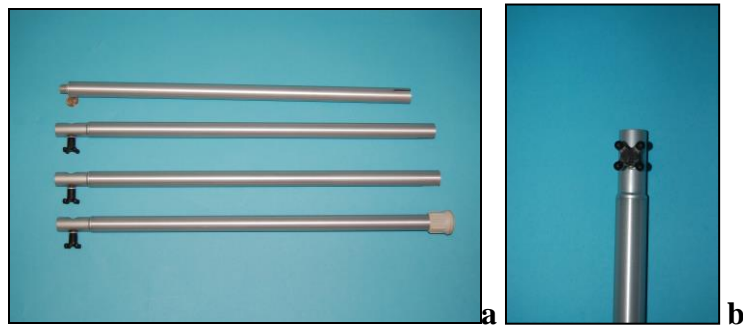
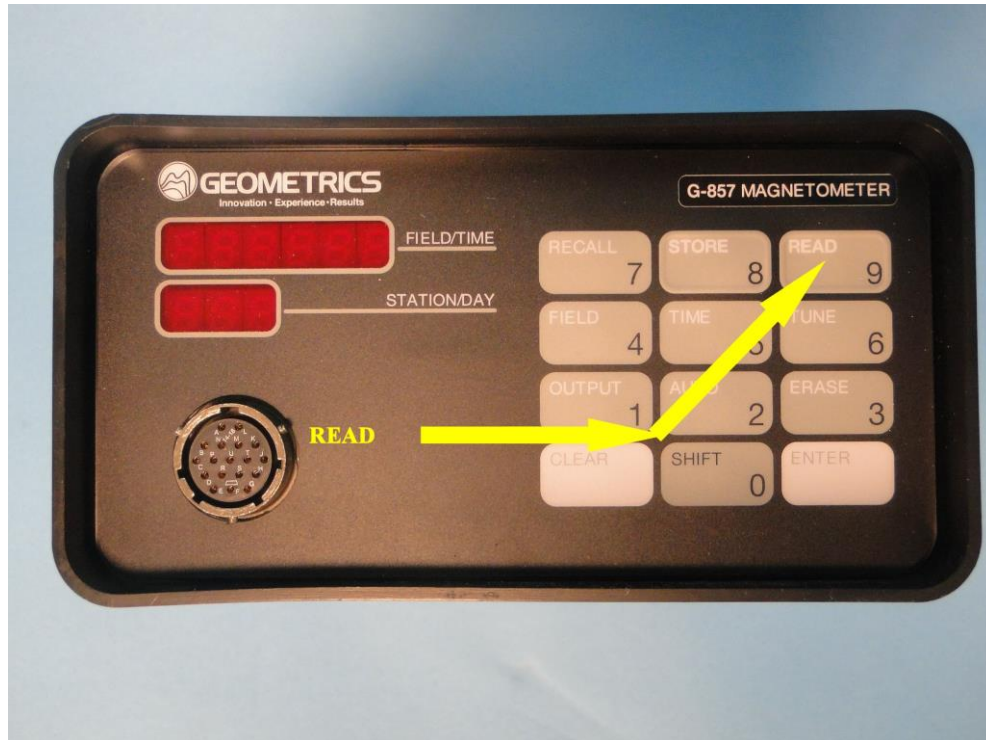

Figure 2. Sensor staff sections.
Figure 8. Location of 'Read' key on magnetometer console
Assembly of the magnetometer is quite simple. Proceed as follows referring to Figure 2 through Figure 8.
- 8) Verify that the console is powered and properly connected to the sensor by momentarily depressing the **READ** key. The position of this key is shown in Figure 8. The displays will light, turn off, then light again for 5 seconds. If the displays did not light, check battery power or the Troubleshooting Appendix in this manual.